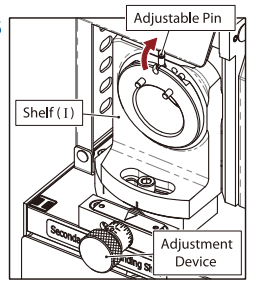

Fig. 7-1
1. Secondary Relief Grinding Shelf (I) (Fig. 7-1)
- ① Move the adjustable pin on the Shelf (I) from the bottom to top.
- ② Adjust the cutting face adjustment device to "0", after finishing the whole sharpening procedure, then adjust this device according to your needs. (See chapter "IV. The use of the Cutting Face Adjustment Device")